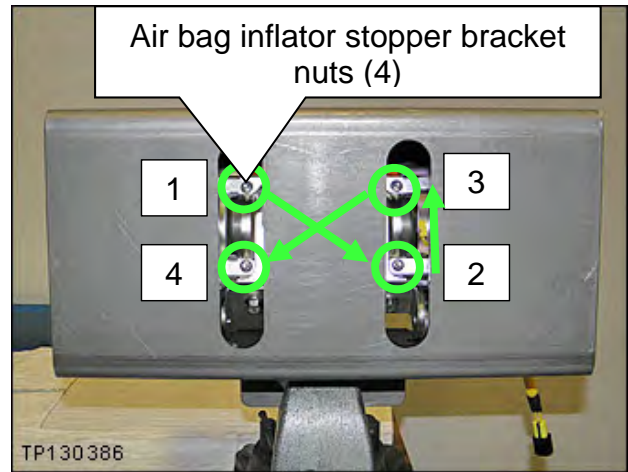

Figure 41
37. Torque the four (4) air bag inflator stopper bracket stopper bracket nuts in the sequence shown in Figure 41.